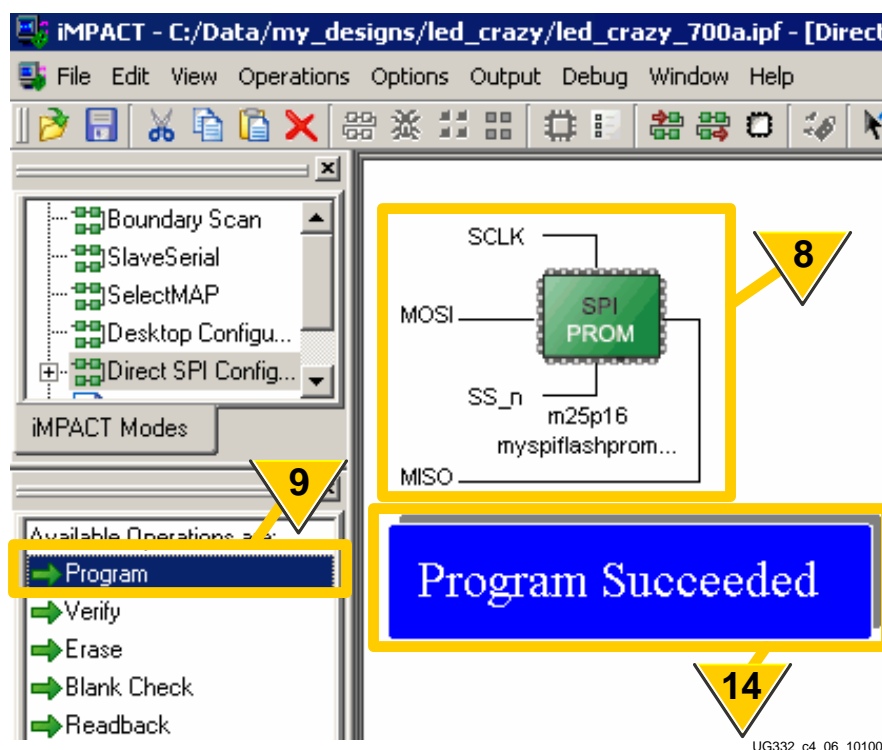

Figure 12-9: Directly Program Supported SPI Flash PROM
8. The iMPACT software displays the selected SPI Flash PROM, as shown in Figure 12-9.
14. The iMPACT software indicates successful programming, as shown in Figure 12-9.